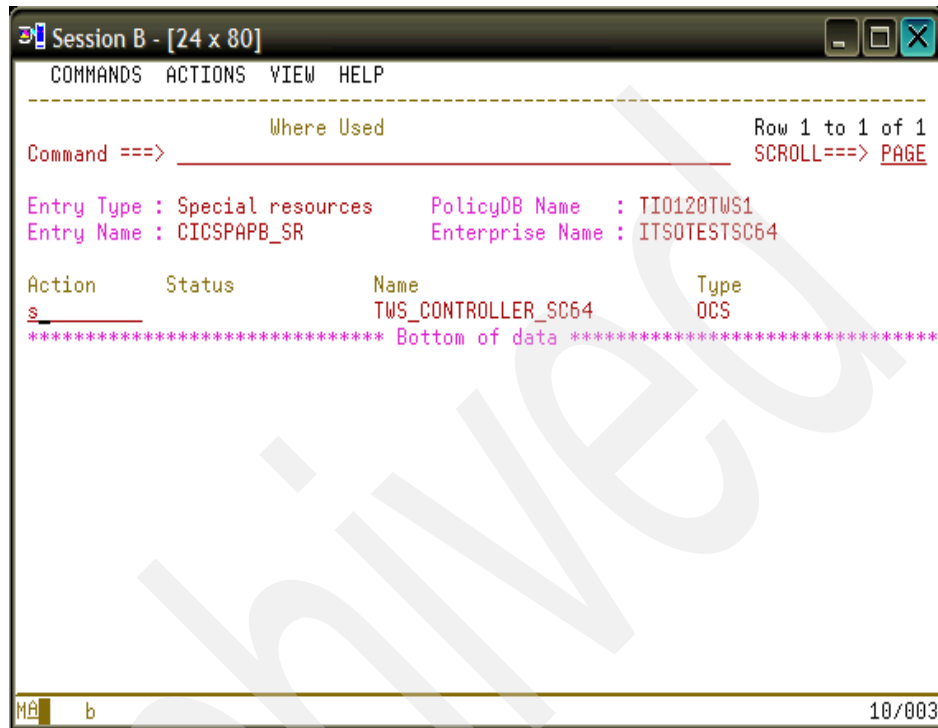

Figure 4-64 Where used panel for OSR entry
9. Place an s in the Action field for WHERE USED. The Where Used panel that is shown in Figure 4-64 displays.